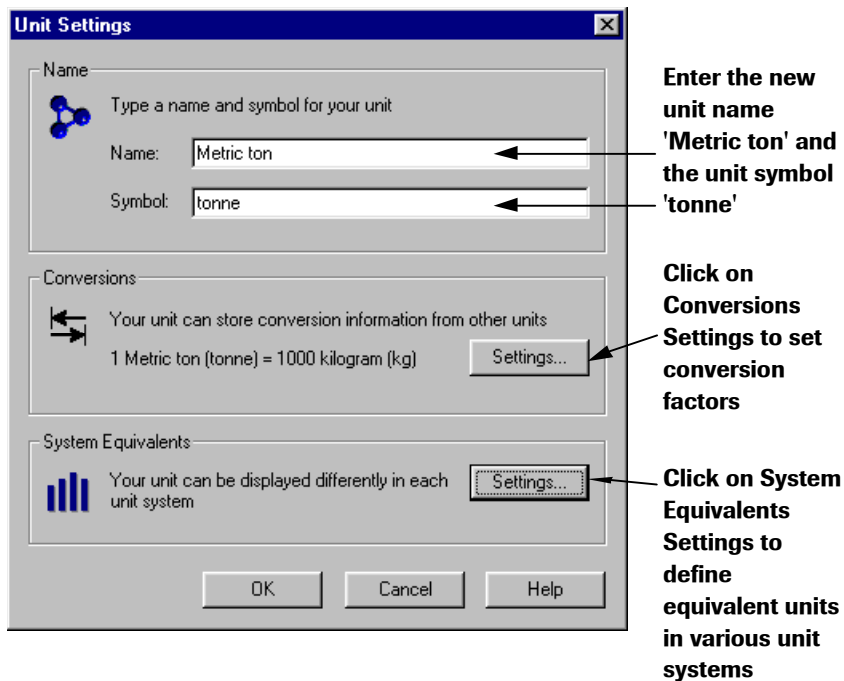

Fig. 10.9 Creating a new unit type.
Now create a new unit called ‘tonnes’ (Metric tons) as shown in figure 10.9. (Note that starter1.gdb already contains many different unit types and their conversion factors.)
Click on the *New* button to create a new unit. The *Unit Settings* dialog box will appear (figure 10.9).
**Click on the *Settings* button (under 'System Equivalents') in the *Unit Settings* dialog box (figure 10.9)**